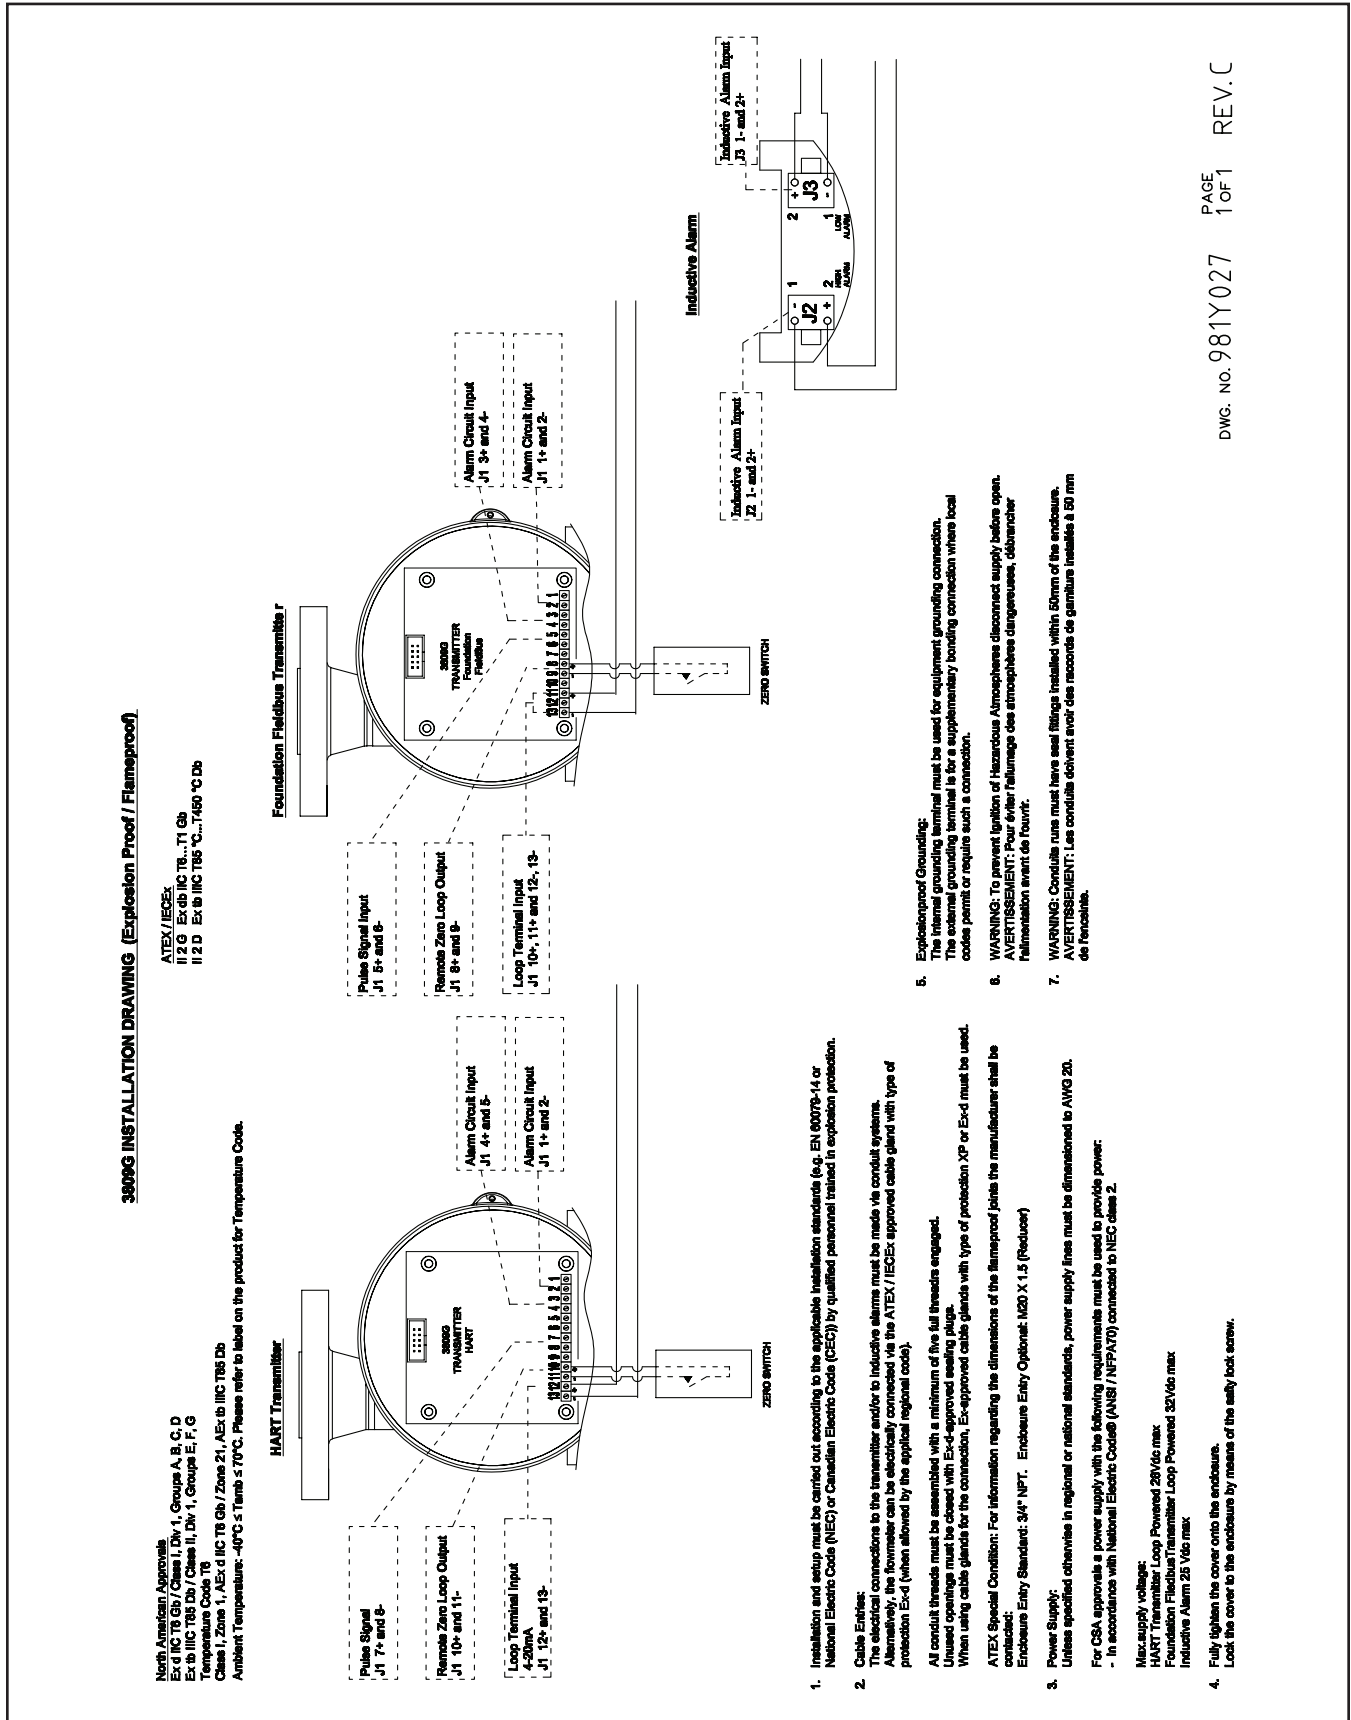

Figure 2-9 Wiring Diagram, Model MT3809 Explosion Proof with Transmitter and/or Inductive Alarm
For flameproof installation, the optional explosion proof enclosure is required and explosion proof installation methods must be followed. Refer to Figure 2-9.
iii. For flameproof installation the optional explosion proof enclosure is required and explosion proof installation methods must be followed. Refer to Figure 2-9.
- iii. For flameproof installation the optional explosion proof enclosure is required and explosion proof installation methods must be followed. Refer to Figure 2-9.